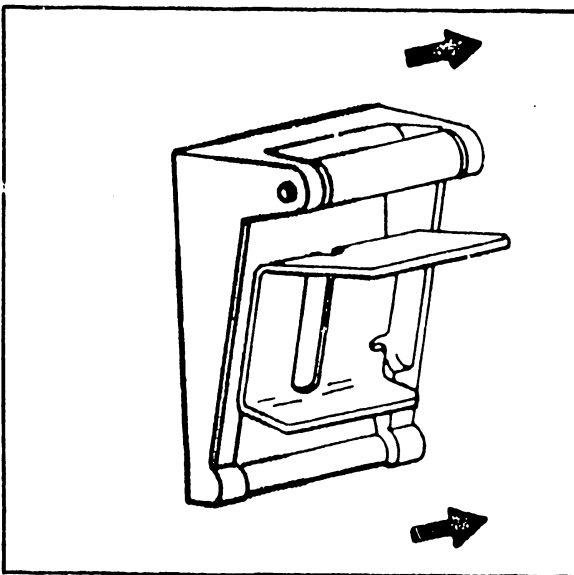

Figure 4.3 Tape Tension Switch
1. Tape tension must not exceed 4 to 6 ounces before the tension release plate drops out. To check this adjustment, insert a piece of tape into the switch as shown in Figure 4.3. Pull the tension release plate forward, insert tape sideways from the left and press the release plate back. Let the tape protrude from the switch at the top and bottom. Doublefold the lower end and pierce a hole through it. Insert a spring gage with a range of 0 to 10 ounces in the hole and hold it while pulling the upper end of the tape in its normal direction of travel. Measure the force required to cause the tape tension plate to drop out.